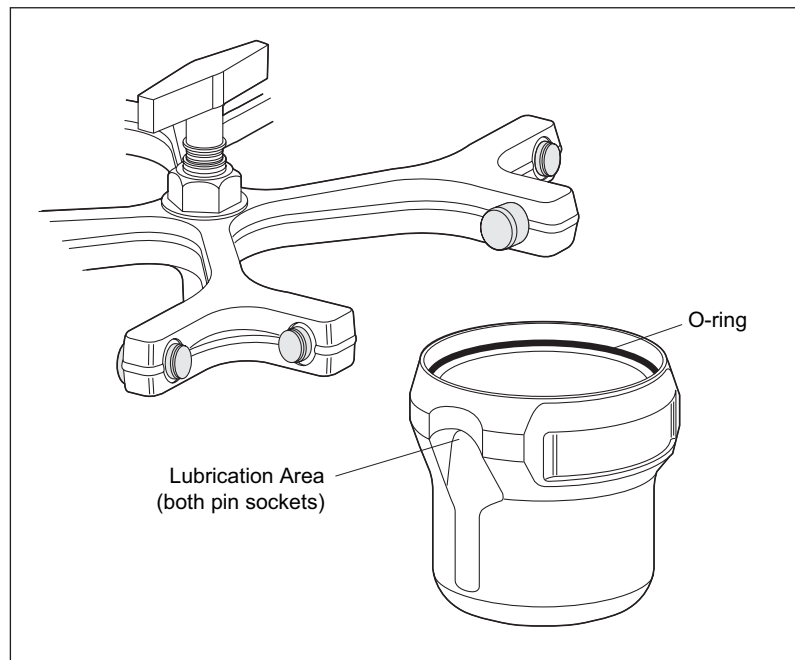

Figure 5. Lubricating Pivot Pin/Bucket Contact Areas
- Approximately every 400 runs, and after cleaning and/or autoclaving, wipe the rotor pins and pin sockets (see Figure 5) with a paper towel, then coat the sockets with Paint On Graphite Lubricant (977212). Allow the lubricant to dry for at least 5 minutes before installing the rotor in a centrifuge.